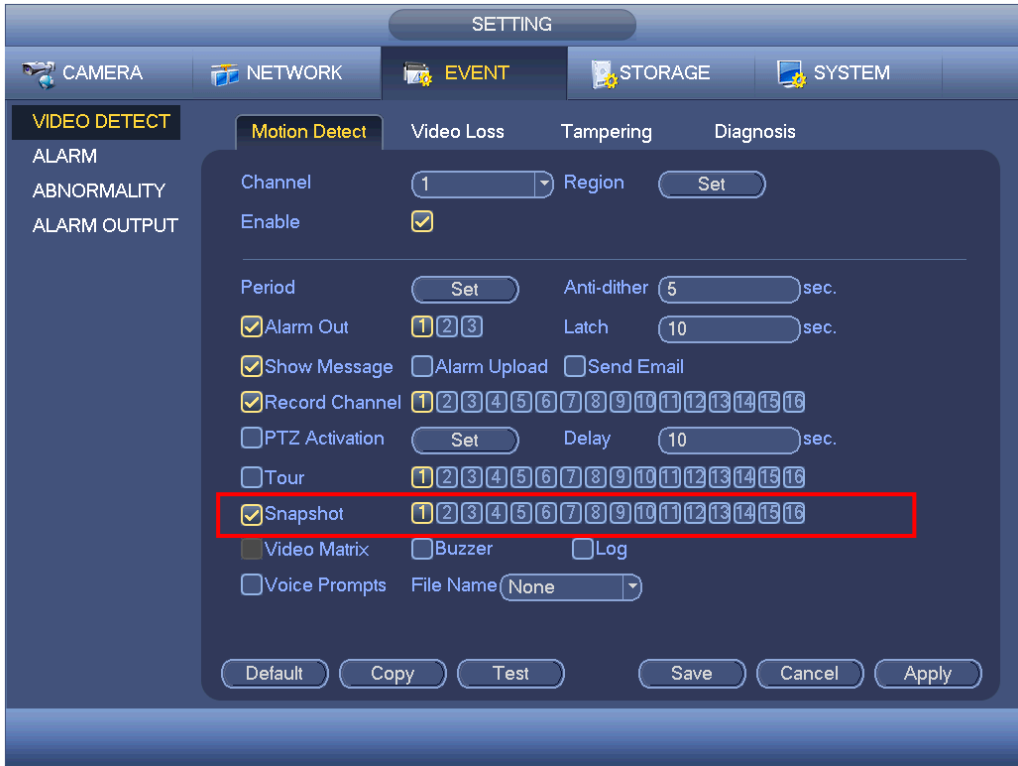
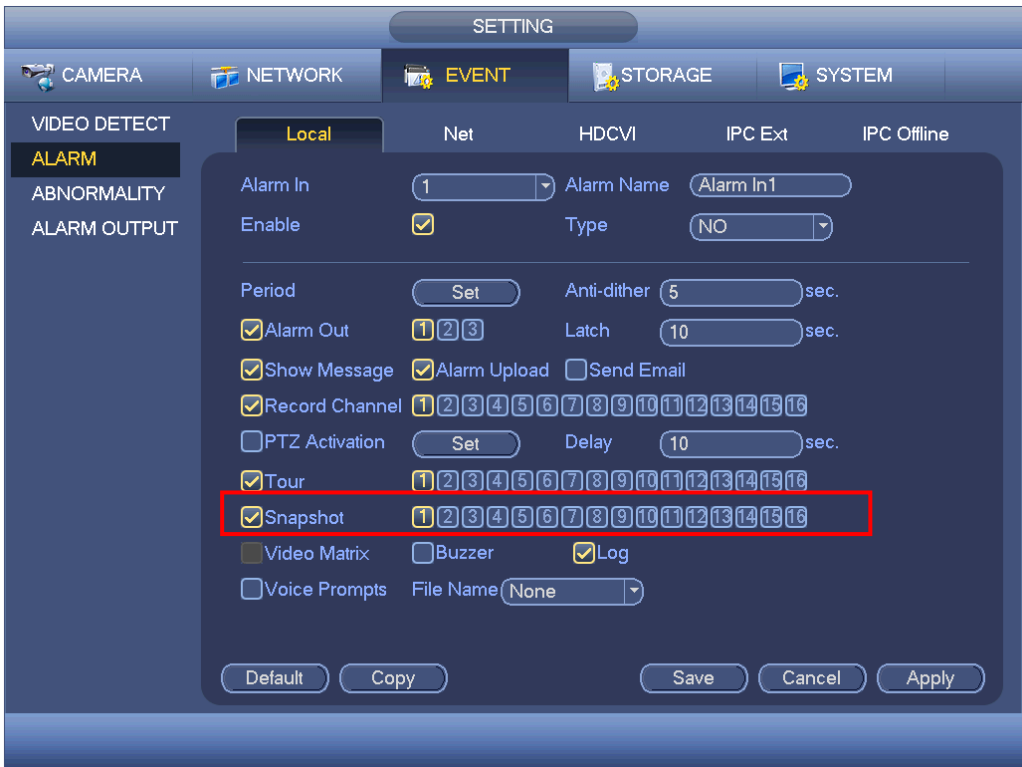

Figure 4-178
Figure 4-179
- In main menu, from Setting->Event->Detect, please enable snapshot function for specified channels (Figure 4-178). Or in main menu, from Setting->Event->Alarm (Figure 4-179) please enable snapshot function for specified channels.